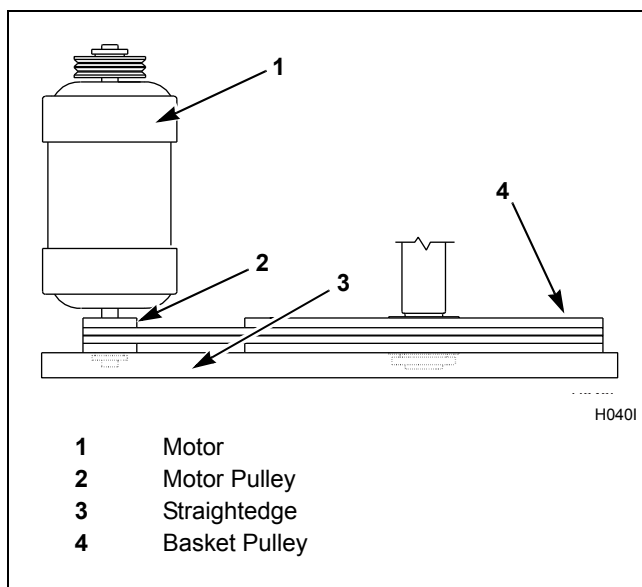

Figure 58
- b. For groove-pulley drive systems, verify alignment by placing a straightedge across both pulley faces. The straightedge should make contact with the pulleys in four places. Refer to *Figure 58*.